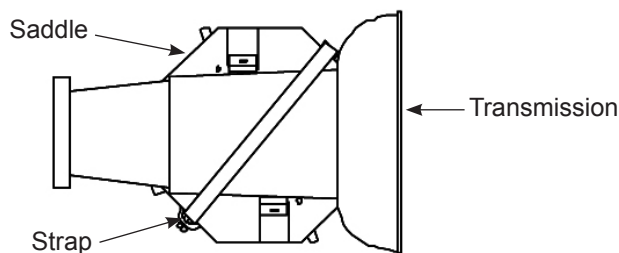

Figure 2
7. Secure transmission to the jack by placing the strap over the transmission, hook it in the hook ring, and then pull the strap tight. See Figure 2.